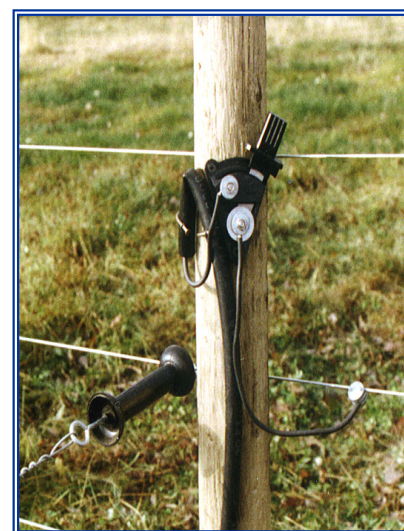

Figure 9 Typical Cutout Switch
- various cutout switches for isolation of fence sections (refer to Figure 9)
A convenient switch location is at a location where a number of fences join or at a gate under or over pass. These switches must be designed for outdoor use or be protected from the weather. Simple plastic fence switches are available as shown in Figure 9. See also the temporary wire joint discussions on previous pages.